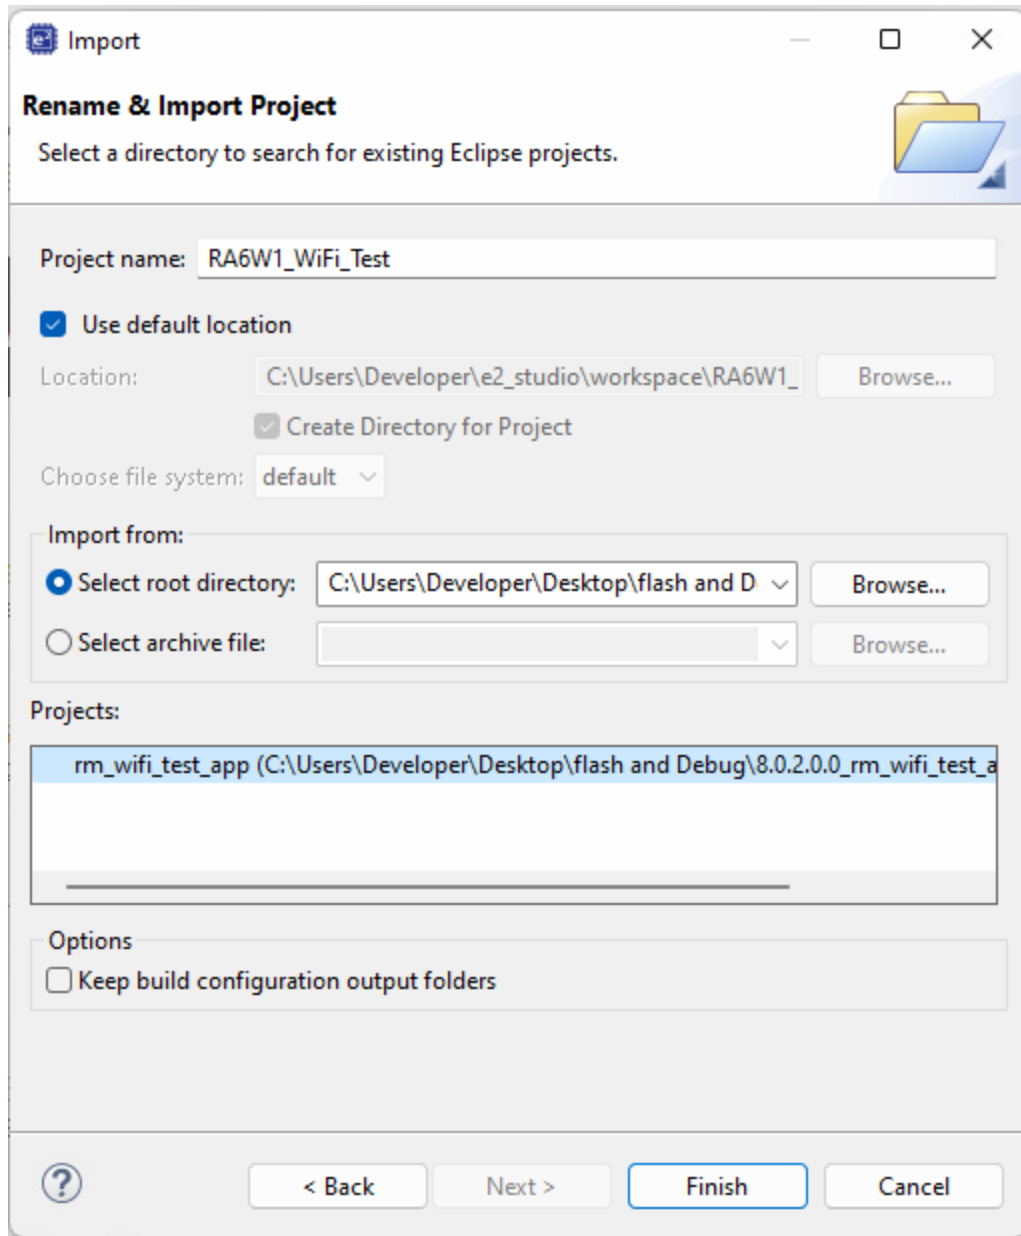

Figure 85. Finish import
5. In the **Project name** field, enter the name and click **Finish**, see Figure 85.